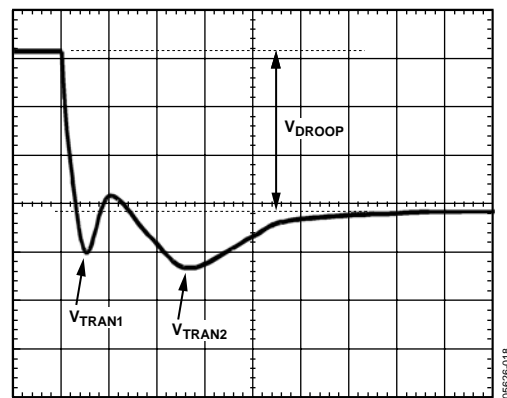

Figure 18. Transient Setting Waveform
18. With the dynamic load still set at the maximum step size, expand the scope time scale to see 2  $\mu\text{s}/\text{div}$  to 5  $\mu\text{s}/\text{div}$ . The waveform can have two overshoots and one minor undershoot (see Figure 18). Here,  $V_{DROOP}$  is the final desired value.